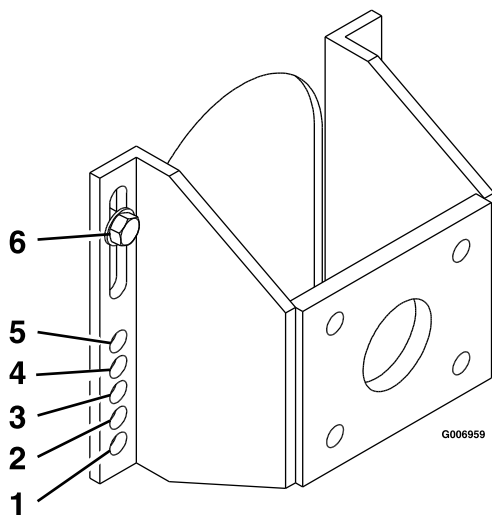
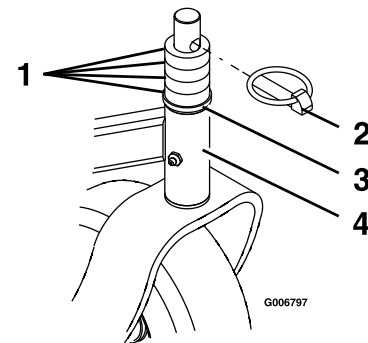

Figure 9
Figure 10
Desired cutting height range can be obtained by adjusting the rear axle and placing caster spacers above or below the caster arm (see Figure 9 and Figure 10 along with the Cutting Height Adjustment Chart).
4. Loosen but do not remove the top two bolts on each hydraulic motor mounting bracket (see Figure 9).
6. Remove “quick pin” from one caster and remove caster from hub (see Figure 10).